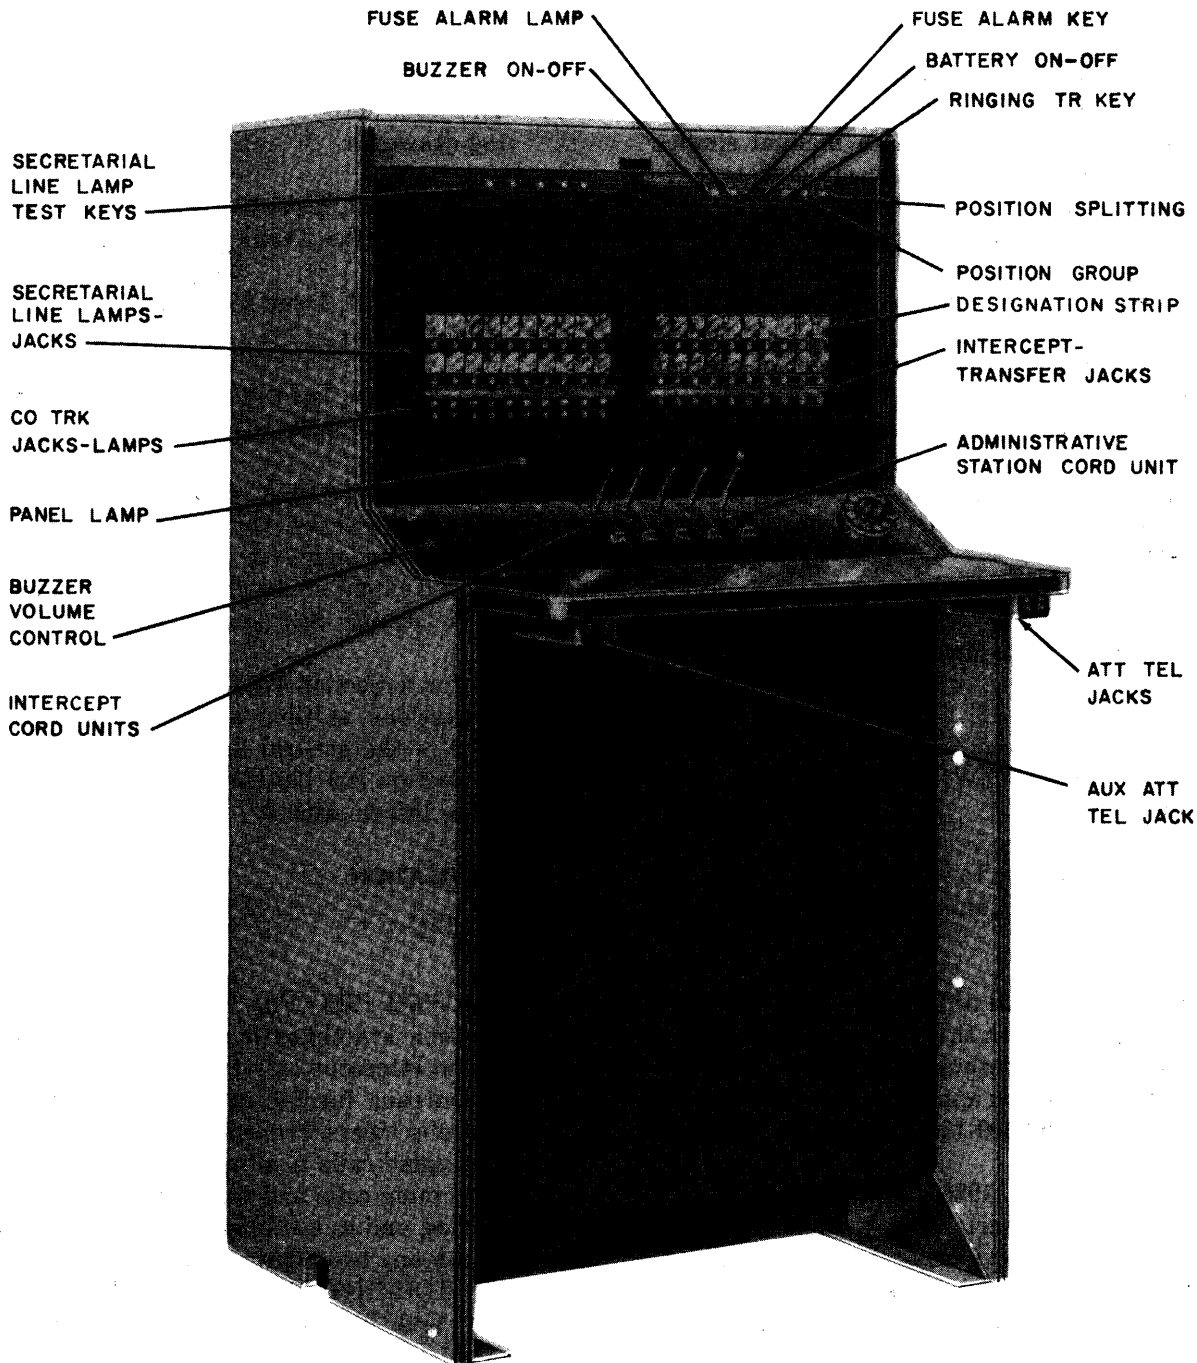

Fig. 1—557B PBX Switchboard—Front View
**2.01** The 557B PBX, Fig. 1, is a manual single-position switchboard designed to serve primarily as an intercept-only-type secretarial switchboard at bureaus furnishing answering service to telephone subscribers. Provision is also made to complete intercepted calls to administrative stations, to answer incoming calls and make outgoing calls to a central office, and to establish a conference connection between any two administrative stations. A rotary or TOUCH-TONE calling dial, ordered separately and installed locally, is required for
**2.17** A manual conference circuit may be provided to connect two administrative stations together, using two station cords. The equipment and apparatus for this circuit are ordered separately and installed locally per T65731-31, Fig. 1. Space is provided on the front of the framework behind the front panel for mounting the coils and capacitors. Spare jacks in the trunk strip or intercept transfer strips are available for the jack appearances. Wiring for the circuit is performed locally.